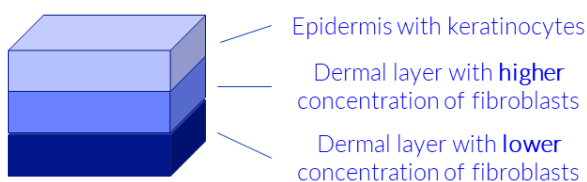

Figure 1. Blueprint of skin model.
The aim of this protocol is to provide instructions for how to use the Skin Tissue Model Kit A and B. It includes creating the G-code and instructions of bioprinting a skin tissue model using CELLINK SKIN (Kit A) or GelXA SKIN (Kit B) bioink, together with primary human fibroblast cells and primary human keratinocyte cells. The model has a fibroblast gradient mimicking papillary and reticular dermal compartments, with a higher fibroblast concentration in the papillary layer, see Figure 1. The protocol also includes directions of use for the three antibodies included in the kit.
- Open the CAD software and create following three STL files, each representing a layer of the blueprint in Figure 1.